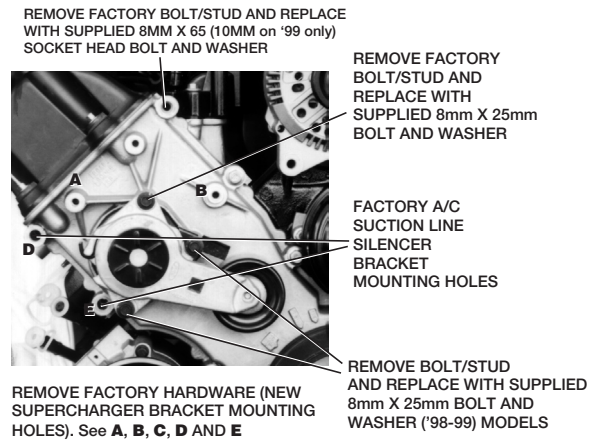

Fig. 8.1-c
- G. Remove the air conditioning line silencer bracket and mounting hardware from the silencer and front cover. Enlarge both of the holes on the bracket with a 27/64" drill bit, remove any sharp edges around the enlarged hole and reinstall onto the silencer. (See Fig. 8.1-e.)
NOTE: When mounting the supercharger bracket assembly to the front cover, make sure that the air conditioning line silencer bracket is sandwiched in between the Vortech aluminum bracket and the front cover in positions #1 and #2. (See Fig. 8.1-e.) On vehicles not equipped with A/C, two .060" washers must be installed in positions #1 and #2 in place of the factory A/C silencer bracket. These have been included with the kit.